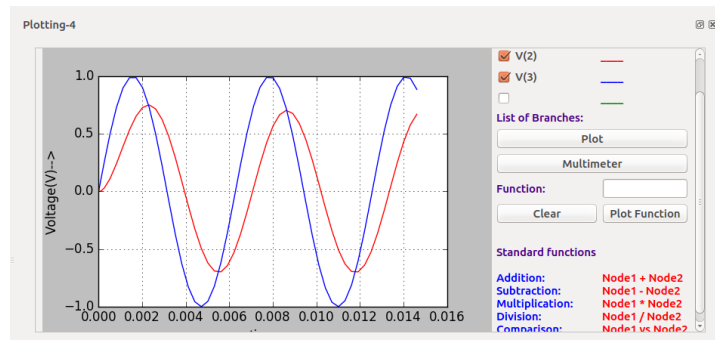

Figure 12.4: Simulation: Low pass filter
4. Simulate the ngspice netlist. The simulation curves are shown in Fig. 12.4.